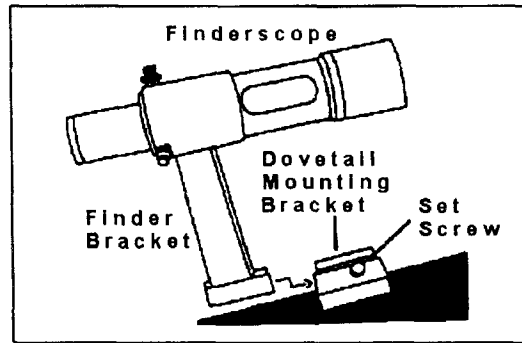

Figure 3
2. Slide the finder bracket (attached to the finderscope) into the mounting bracket on the telescope. Tighten the set screw on the mounting bracket to hold the finderscope in place (see figure 3).